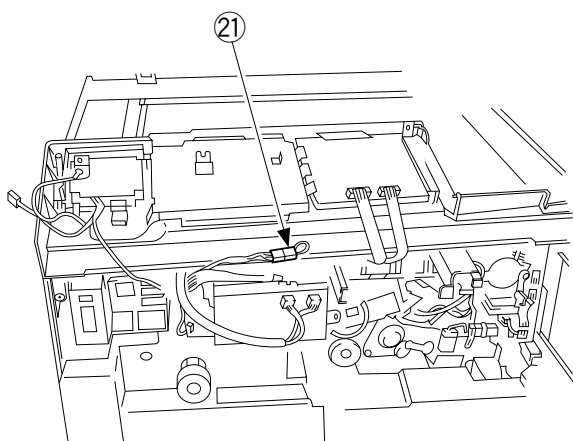

Figure 9-415
15) Disconnect the shorting connector ②① shown in Figure 9-415.